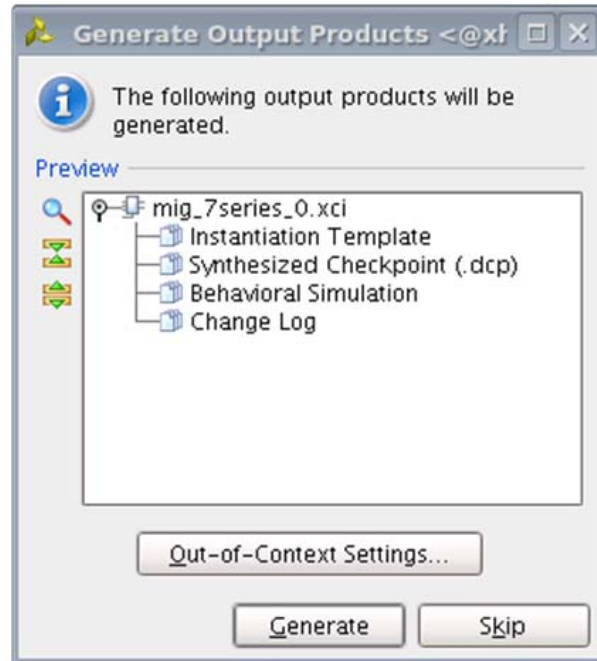

Figure 4-27: **Generate Output Products Window**
1. After clicking **Generate**, the **Generate Output Products** window appears. This window has the **Out-of-Context Settings** as shown in Figure 4-27.